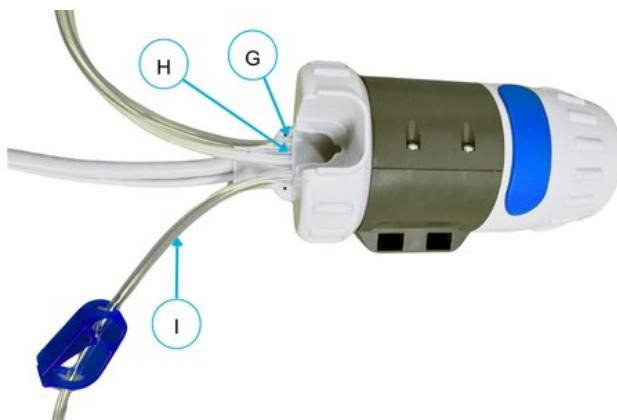

Figure 11-4: Delivery Device Lines
4. Initiate connection of the three lines from the Delivery Device (**Figure 11-4**):